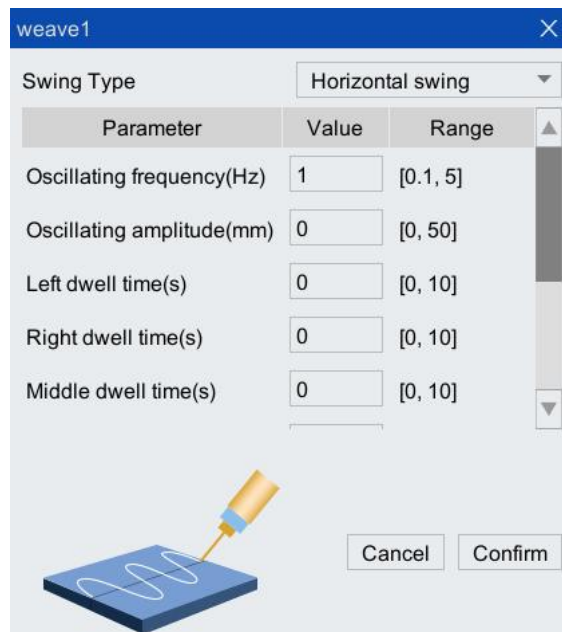

Figure 5-23 "Weave" Variable configuration interface
Step2. Click the <...> button behind the variable weave to open the "weave" variable configuration interface as shown in Figure 5-23. Modify the specific parameter values according to actual needs. After the modification is completed, click the <Yes> button.